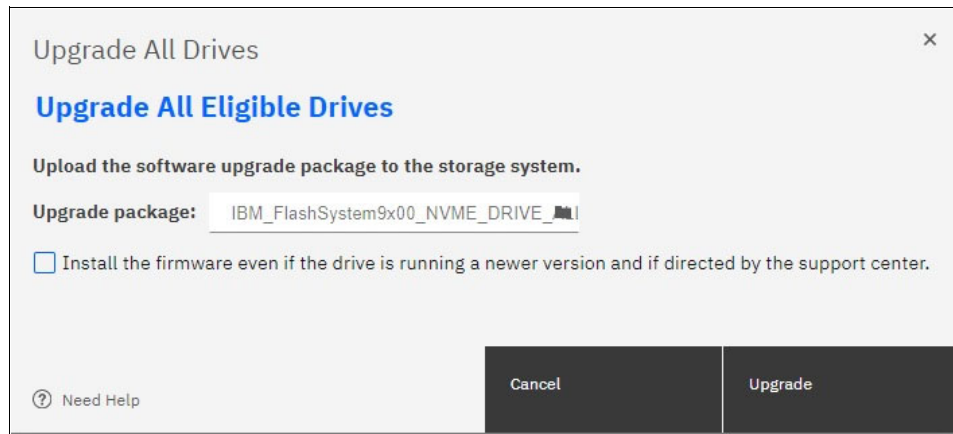

Figure 10-6 Drive firmware upgrade
2. As shown in Figure 10-6 on page 434, in the Upgrade Package text box browse to the drive firmware package you downloaded in section , “Obtaining the software packages” on page 424.